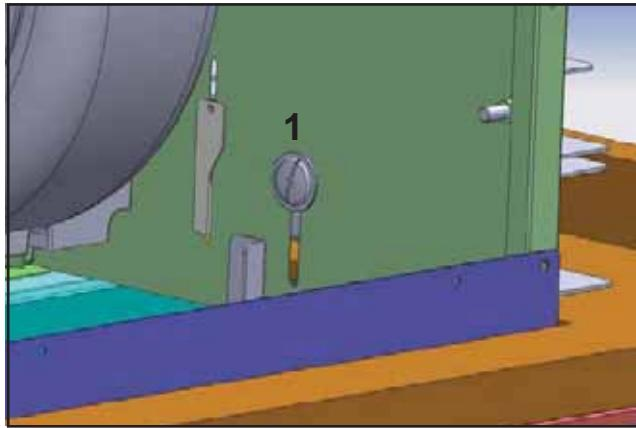

Fig.8
7) From inside the hood, secure (1) M4x8 screw into each lower installation bracket. The position of this screw is adjustable to accomodate various cabinet bottom thicknesses, Fig.8. Do not fully tighten screw yet.